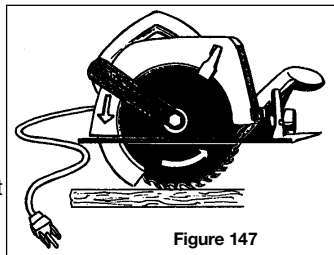

Figure 147
2. Place the saw blade on a piece of scrap lumber and press down until the teeth dig into the wood (Figure 147). This prevents the blade from turning when the locking nut is loosened or tightened. Some machines are provided with a mechanical locking device.